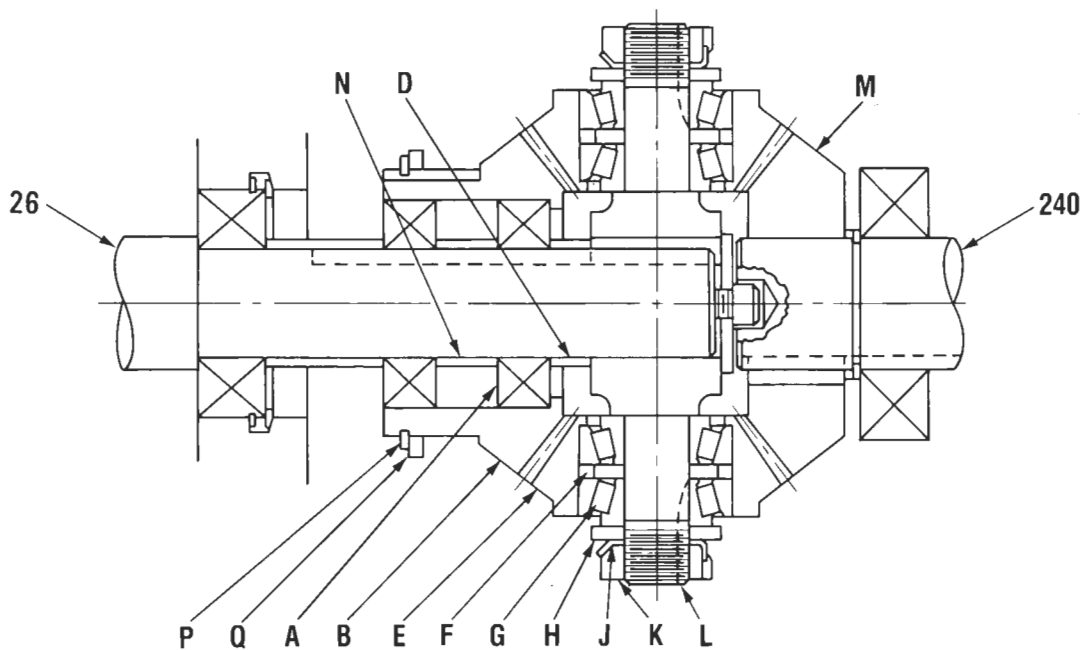

Figure 2
Figure 2 represents a typical differential assembly as used in the MDD. The assembly instructions which follow apply to all other transmission arrangements for spider assembly, side gear and worm assembly and final assembly.
1. Spider Assembly (Figure 2)
- A. Push tapered roller bearing (G) outer races with standard spacer (F) into each differential pinion. Note that the angles converge between the bearings.
- B. Press a tapered roller inner race onto both spider journals (L), the large end toward the center of the spider.
- C. Place pinion gears (E) on spider.
- E. Add hardened washer (H), lock washer (J), and lock-nut (K) to both ends.
- A. The lash on the bearing-mounted side gear (B) is controlled by a spacer (D, Figure 2) between the inner ball bearing (A) and the spider. The need to change this spacer is unlikely. The table gives the backlash in inches for the assembled unit related to diametral pitch of the gear in the unit.
- C. The side gear (N) is then pushed on over the bearing's outer race.
J. Recheck the fit using the spacer, then disassemble and repeat the mounting procedure on the actual input shaft (25 Figure 2).
3. Final Assembly (Figure 2)
A. With the assembly to this point assembled in the housing, the bearing retainer holding the snap ring bearing bolted in place, the next step is the shaft mounted differential side gear (M) first assuming the gear to be too long.
B. Press the gear onto its shaft (240 Figure 2) journal firmly against the shaft shoulder with the shaft bearings in their positions.